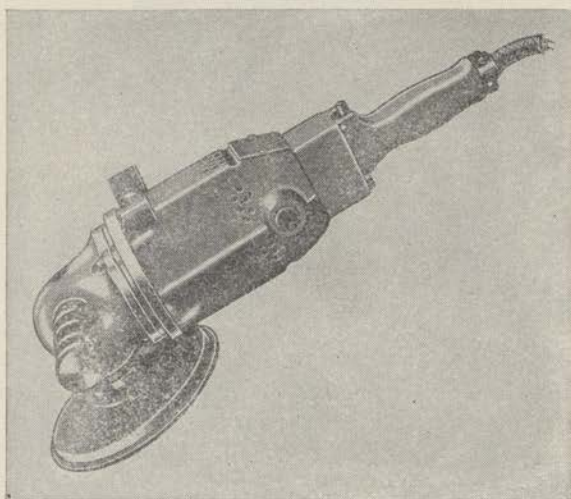
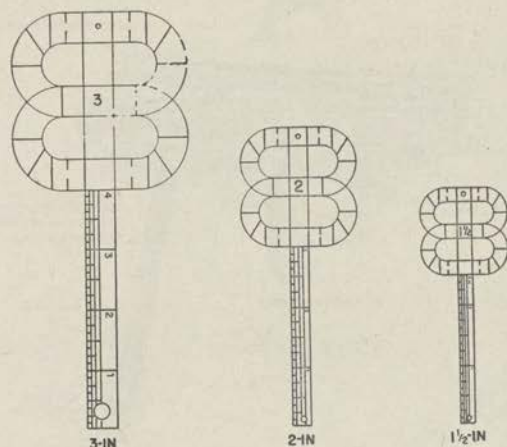

FIGURE 119.—Portable electric sander.
FIGURE 120.—Stencil key sets.
c. Electric sander and buffer.—(1) Portable motor-driven, flexible disk sanders (fig. 119) are occasionally required for smoothing the body or fender metal before it is painted, although this is not usually the work of the paint shop. They should not be used within the spray-painting area.
(2) Ordinarily the same tool is not used both for sanding and buffing, because the sander rotates much faster than the buffer. However, combination sander-buffers are available, which operate at two speeds controlled by gear shifts.
d. *Stencil key sets* (fig. 120).—Stencil key sets can be used for drawing any letter or number on stencil paper. To use them, lay them in the proper positions, mark around the edges, and cut out the letters with a stencil knife. The usual sizes are 1½-, 2-, 3-, and 4-inch.